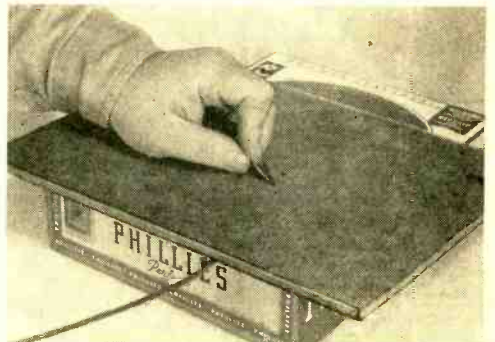

Fig. 11. Scratch the piece of hardboard to duplicate the sound of sawing a wooden board.
*Sawing Wood:* This sound may be simulated by placing the microphone inside the cigar box and placing the piece of hardboard on top, then scratching the hardboard with a piece of metal, as shown in Fig. 11. Use a back and forth movement.